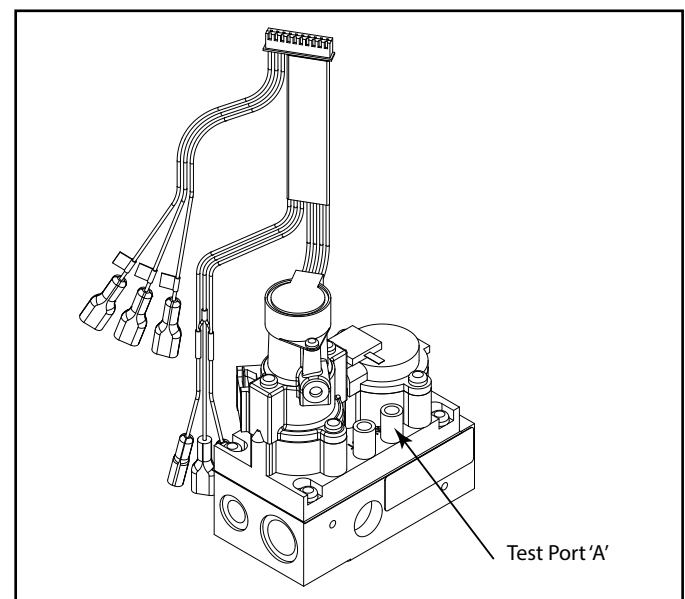

Figure 4.2 Pressure Test Point Location
- Valve pressure taps are accessible by removing the right side log. See Figure 4.2.
Turn captured screw counterclockwise two or three turns and then place tubing to pressure gauge over test point. Use test point "A" closest to gas inlet. After taking pressure reading, be sure and turn captured screw clockwise firmly to reseal. Do not over torque. Check for gas leaks. See Figure 4.2.